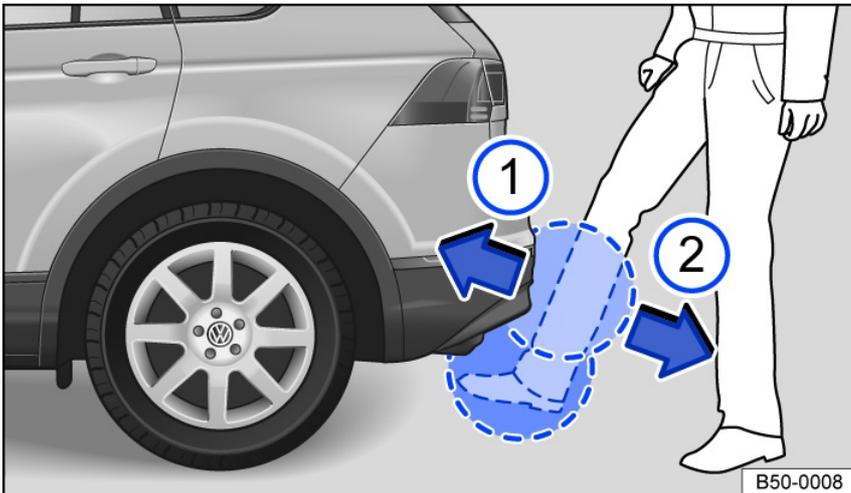

Fig. 68 Trunk lid with sensor controlled closing (Easy Close).
- **OR:** Move your foot and shin quickly close to the bumper. Your shin must be near the upper sensor and your foot must be near the lower sensor fig. 68.